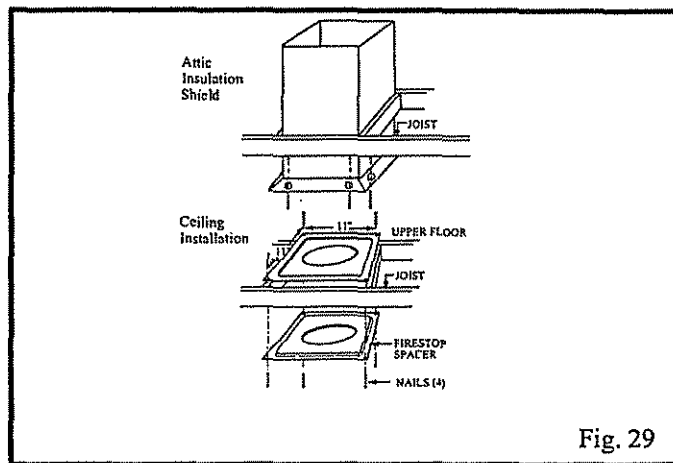

Fig. 29
6. Place firestop(s) #7DVFS or Attic Insulation Shield #7DVAIS into position and secure. (Fig. 29)
*Fig. 29 If there is a room above ceiling level, firestop spacer must be installed on both the bottom and the top side of the ceiling joists. If an attic is above ceiling level a 7DVAIS (Attic Insulation Shield) must be installed.*